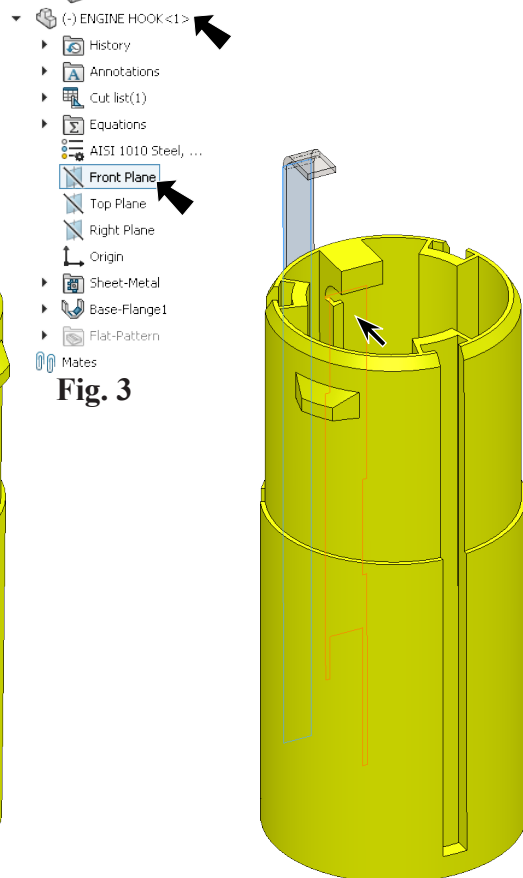

Fig. 3
Step 2. Expand the flyout Feature Manager design tree (click ) in the top left corner of the graphics area, expand **Can** and click **Plane1** , **Fig. 3**.
Step 3. Expand **Engine Hook** and click **Front Plane** , **Fig. 3**.